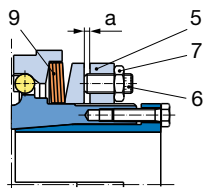

Fig. 9
Sizes 4 and 5 (Figs. 9 and 10):
- Loosen all hexagon nuts (7).
- Tighten all set screws (6) evenly using an Allen wrench to the required dimension "a".
- EAS®-Compact® ratchetting and synchronous clutch, size 4: find dimension "a" in the Adjustment Table glued to the clutch (Fig. 9).